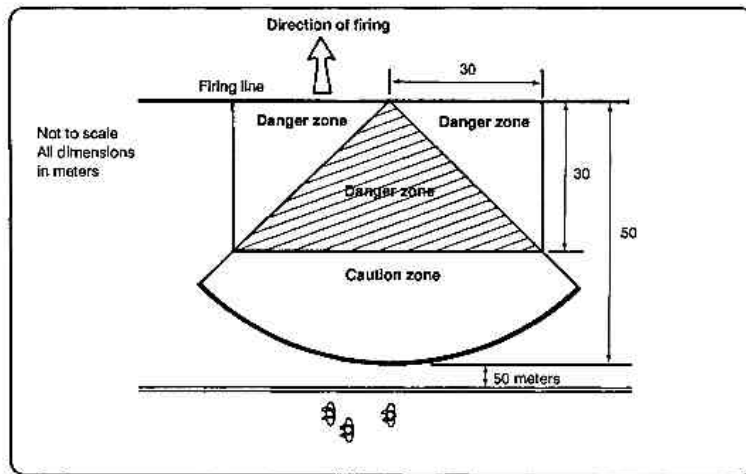

Figure 2-2. Personnel crossing 50 meters behind LES.
(5) Debris. Personnel must not stand in front of or in back of the LES when it is being freed. If it is necessary to cross behind the LES, they must cross at least 50 meters away (see Figure 2-2).